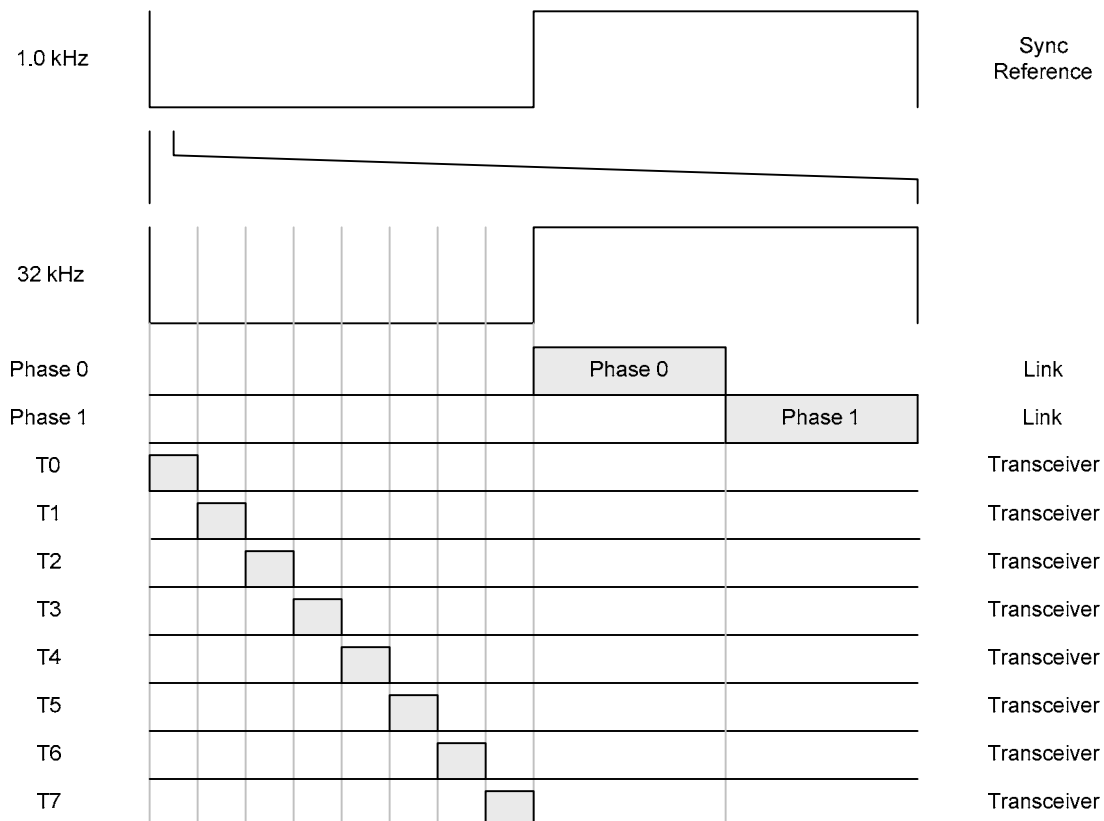

Figure 25 – Synchronization Plan
If MicroWave 330 is to be synchronized to another MicroWave 330 or Model 380 or Model 385 transceiver it must be in the Tethered configuration. In the synchronized configuration MicroWave 330 supports two (2) time slots, Phase 1 and Phase 2. This will allow for synchronizing two (2) MicroWave 330 links and up to seven (7) transceivers as shown in Figure 25. Two more links can be added if they are rotated 90° as explained in Section 4.2.